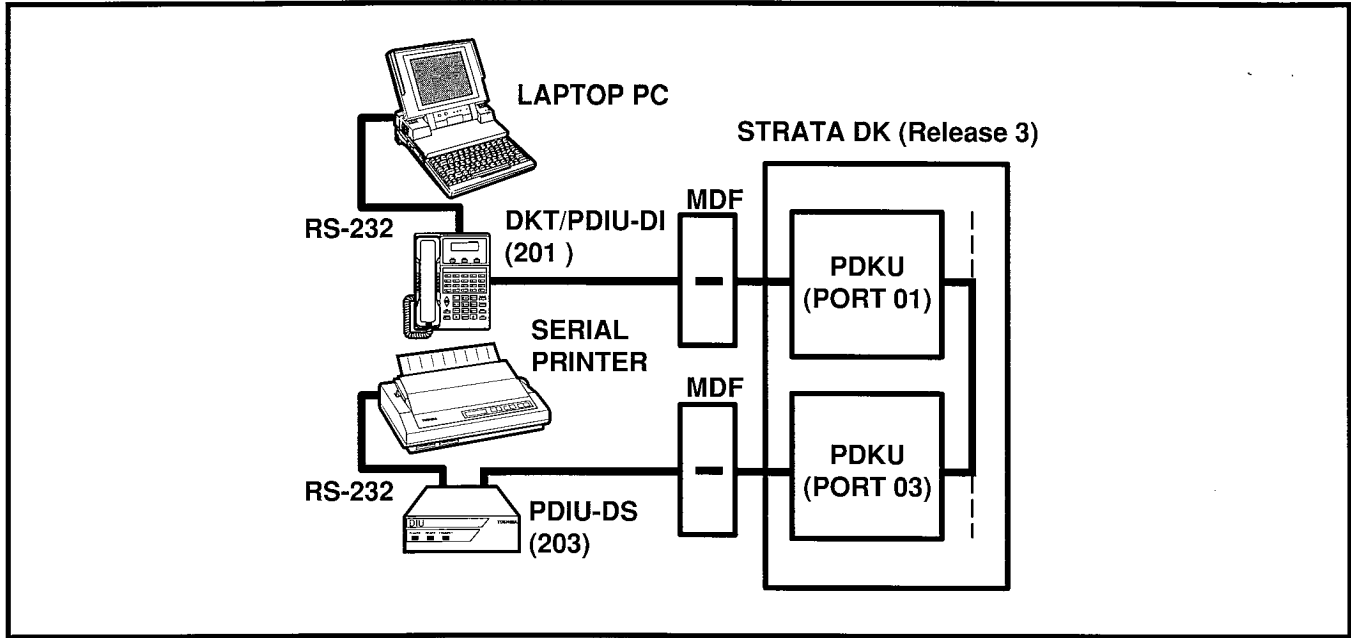

FIGURE 8-36—PC TO PRINTER TEST CALL USING MANUAL DIALING
12.83 PC to Printer Test Call Using Manual Dialing (see Figure 8-36)